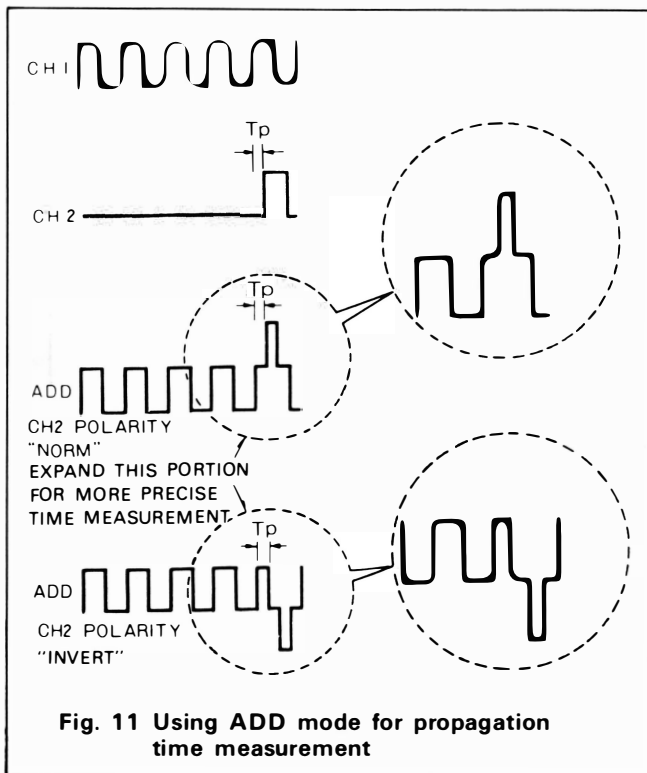

Fig. 11 Using ADD mode for propagation time measurement
An example of propagation delay in a divide-by-eight circuit was given in the previous paragraph. Significant propagation delay may occur in any circuit with several consecutive stages. This oscilloscope has features which simplify measurement of propagation delay. Fig. 11 shows the resultant waveforms when the dual-trace presentation is combined into a single-trace presentation by selecting the ADD position of the MODE switch. With CH2 PULL INVERT switch in the normal position (pushed in) the two inputs are algebraically added in a single-trace display. Similarly, in the inverted position (pulled) the two inputs are algebraically subtracted. Either position provides a precise display of the propagation time (T_p). Using procedure given for calibrated time measurement, T_p can be measured. A more precise measurement can be obtained if the T_p portion of the waveform is expanded horizontally. This may be done by pulling the PULL $\times 5$ MAG control. It also may be possible to view the desired portion of the waveform at a faster sweep speed.
9. Set the SWEEP TIME/DIV control to the 0.1ms/div position to expand the display by increasing the sweep speed. The VITS information will appear toward the right hand portion of the expanded waveform displays. The waveform information on each trace may appear as shown in Fig. 11. Because there is no provision for synchronizing the oscilloscope display to either of the two fields which comprise a complete vertical frame, it cannot be predicted which field display will appear on CH1 or CH2.